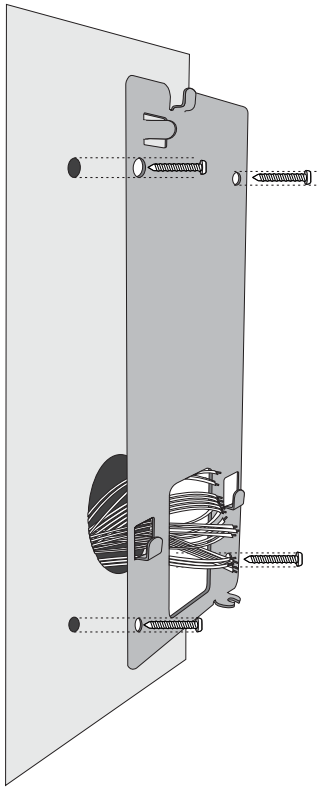

Figure 2
- Fix the Mounting Plate on the installation surface with the four supplied screws (figure 2 and 3).